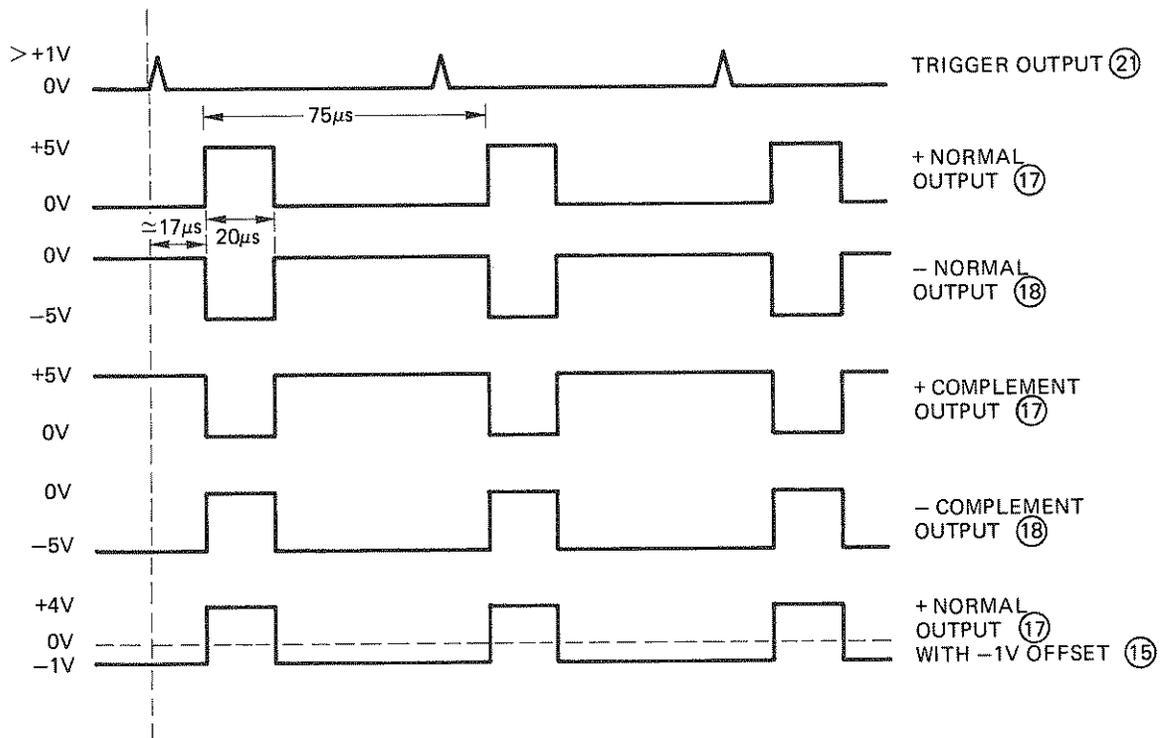

Figure 3-6. Output pulses in normal internal trigger mode
3-16 The output pulses should appear at the pulse OUTPUT (+) (17) and pulse OUTPUT (-) (18) as shown in Figure 3-6 according to the setting of the NORM/COMPL switch (19) and the OFFSET verniers (11) and (15)